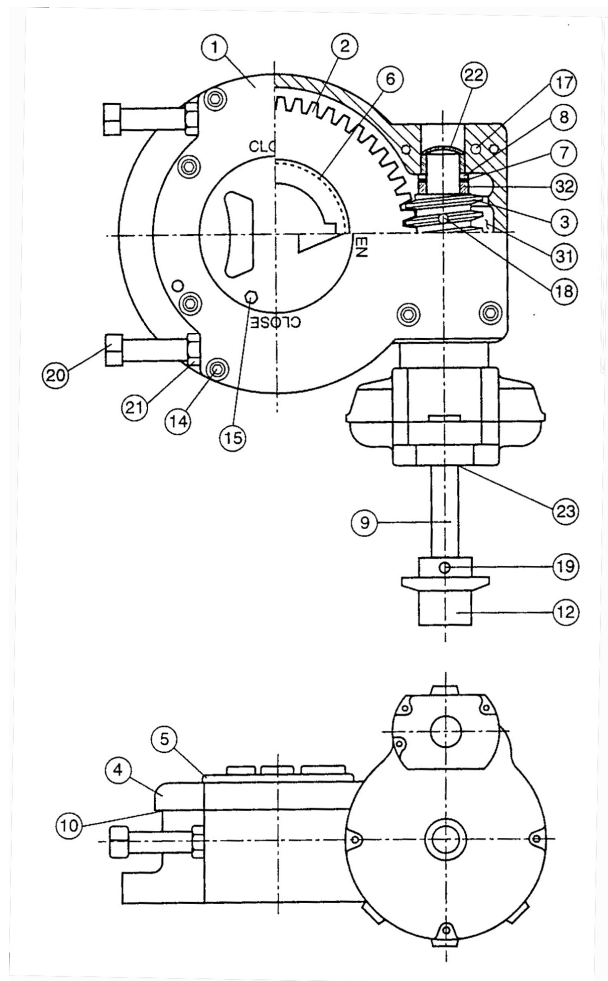

FIGURE 8. GEAR ACTUATOR CONSTRUCTION
WORM GEAR ACTUATOR MAINTENANCE: A typical worm gear actuator is shown in Figure 8 and consists of a worm (3) mounted on an input shaft (9). The worm engages a segment gear (2). When the worm is turned, it drives the segment gear through 90° of rotation. The rotation of the segment gear is displayed by the top indicator (5). The gears are lubricated with EP2 grease in a cast iron housing (1). The open and closed positions of the segment gear (2) are controlled by the end position stop bolts (20). The stops can be adjusted by loosening the lock nut (21) and rotating the bolts (20).